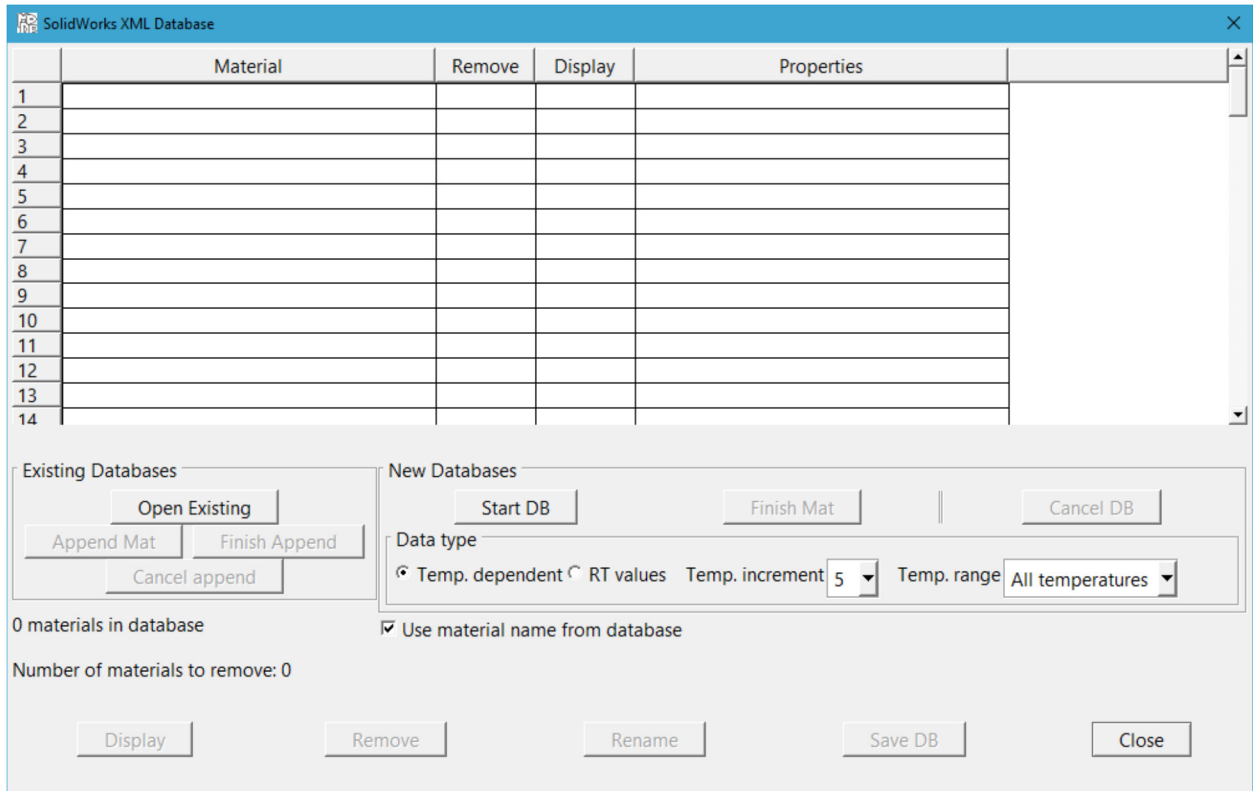

Figure 7.
- III. A new window will appear (Figure 7.)